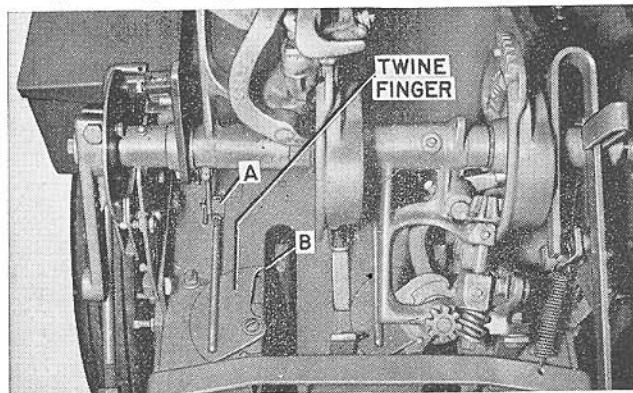

FIGURE 24
4. Turn the knotters through their complete tying cycle and check the position of the twine fingers at rest. Adjust the twine finger linkage (point A, Fig. 24) so that the tip of the twine finger rests at the edge of the needle slot of the bale chamber as illustrated (point B).
11. Install a $\frac{1}{8}$ " space washer next to the support bearing. Place the knotter brake assembly on the knotter brake disc and install the disc on the knotter shaft, positioning the brake assembly on the locating pins as shown in Fig. 24.